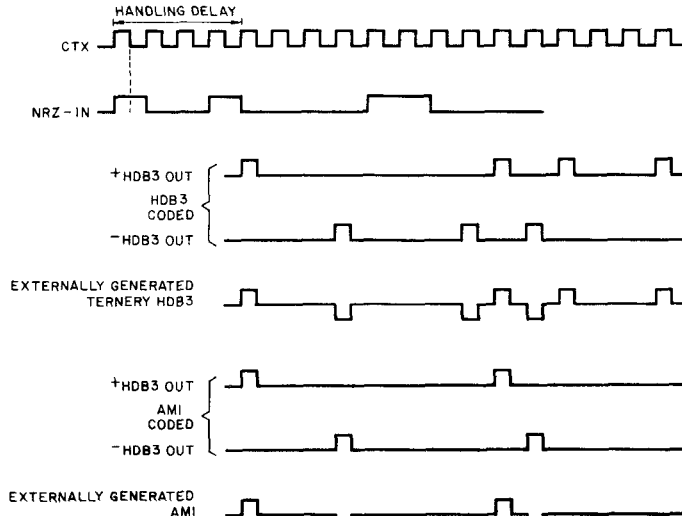
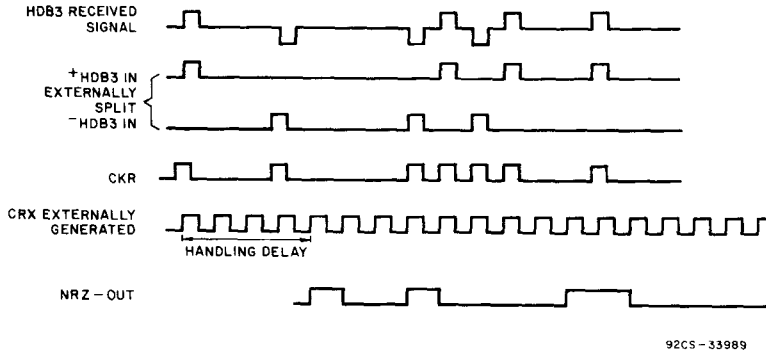
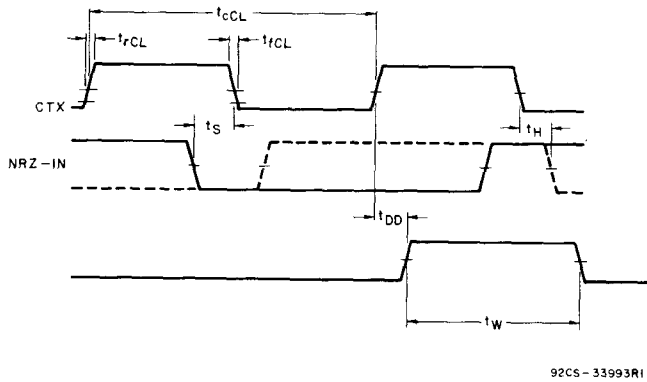

Fig. 2 - Transmitter coder operation timing waveforms - NRZ to HDB3/AMI coding.
Fig. 3 - Receiver decoder operation timing waveforms - HDB3 to NRZ decoding.
Fig. 4 - Transmitter coder timing waveforms.
\* See Fig. 4
§ See Fig. 5      \* See Fig. 4      † See Fig. 2      # See Fig. 3
### Transmitter Coder (See Fig. 2)
**Receiver Decoder (See Fig. 3)**
The CD22103 is designed to code and decode HDB3 signals which are coded as binary digital signals (NRZ-In) and (+ HDB3 IN, -HDB3 IN), accompanied by sampling clocks (CTX) and (CRX). The two binary coded HDB3 outputs, (+ HDB3 OUT, -HDB3 OUT) may be externally mixed to create the ternary HDB3 signals (See Fig. 2).